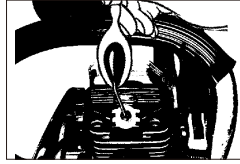

Fig. 19
5. Pour 1 teaspoon of clean 2-cycle oil into the combustion chamber. Pull starter rope slowly several times to coat internal components. Replace spark plug. (Fig. 19)